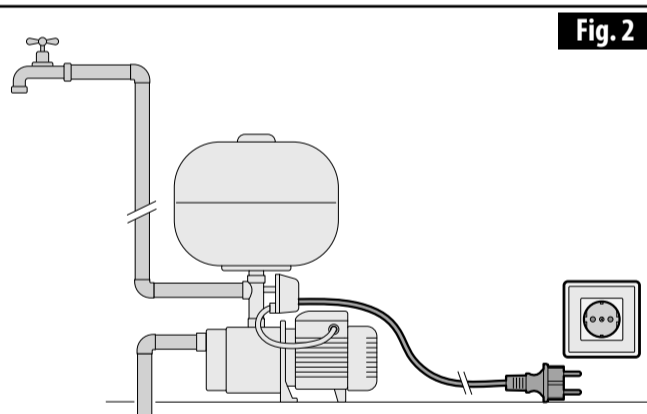

Fig. 2
- Disconnect the plug of the electric pump's power cable from the power socket, leaving the supply point open, and drain the system completely (Fig. 2).